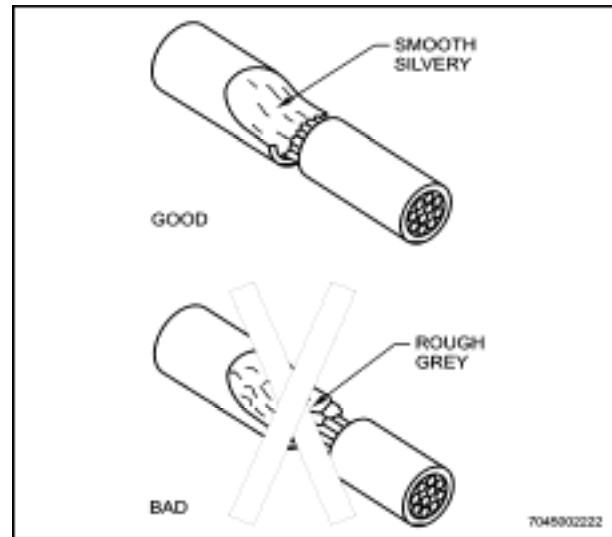

Figure 7-5 Good and Bad Soldered Connections
38. A good soldered joint will have a bright silvery appearance, with smooth fillets and feathered non-sharp edges. The entire joint will be covered with a smooth even coat of solder, and the contour of the joint will be visible. (See Figure 7-5.)